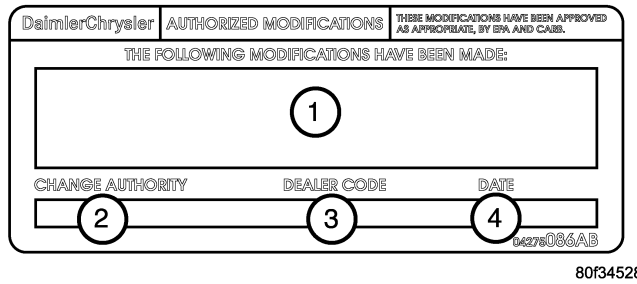

Fig. 1 AUTHORIZED MODIFICATION LABEL
13. Type the necessary information on the “Authorized Modification Label” p/n 04275086AB and attach near the VECI label (Fig. 1).